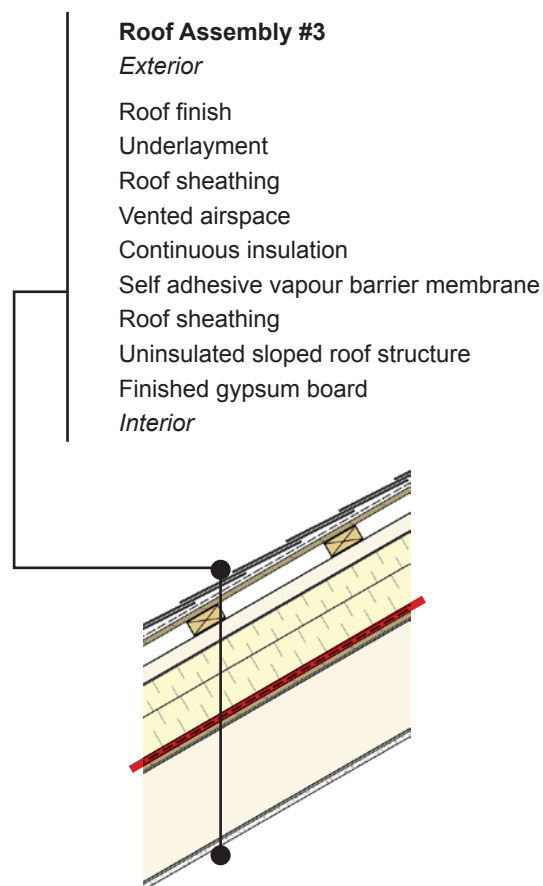

Figure 1 Typical assembly layers of the exterior-insulated sloped roof assembly.
- Figure 1 Typical assembly layers of the exterior-insulated sloped roof assembly. . . . . 7